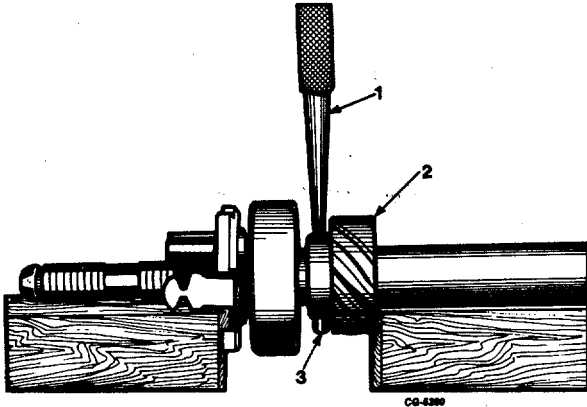

Fig. 39 Removing Tachometer Drive Gear Pin
2. Support distributor shaft and drive roll pin from tachometer drive gear using punch and hammer (Figure 39).